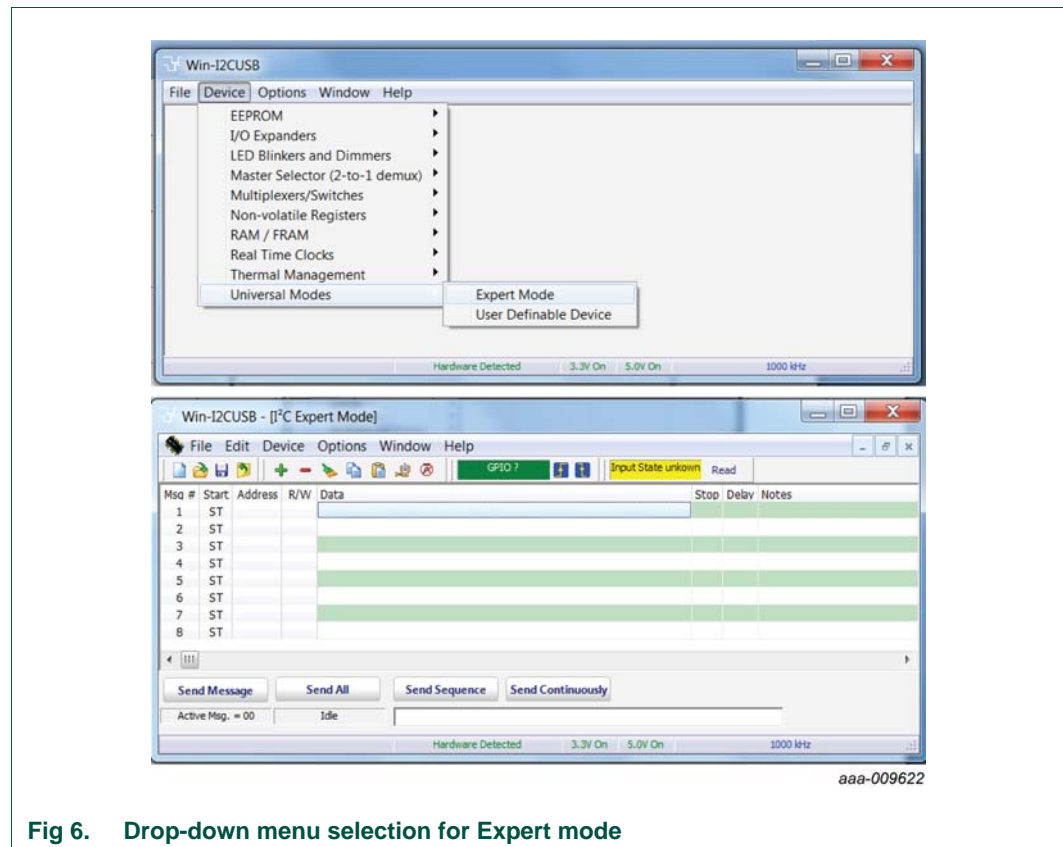

Fig 6. Drop-down menu selection for Expert mode
The PCA9956B is controlled by WIN-I2CUSB GUI in Expert mode, as shown in Figure 6.
Connect the hardware as described in Section 4. All jumpers are in default setting and device address is set to 0xFA on J5, J8 and J9 (set AD[0:2] = V_{DD}) for PCA9956B demo board. When you have correctly installed the software and the demonstration board hardware is connected and recognized by the computer, start the Win-I2CUSB Lite software. As shown in Figure 6, when the demonstration board hardware is correctly
1. From the 'Device' drop-down menus select 'Universal Modes', and from the subsequent drop-down menu select 'Expert Mode' as shown in Figure 6.